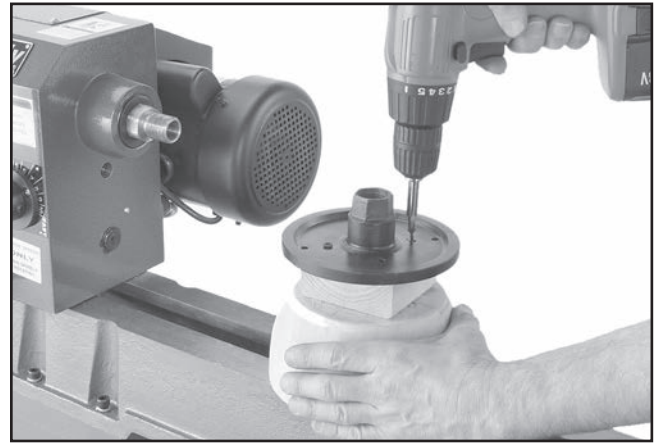

Figure 38. Attaching the faceplate to a backing block, which is glued to the workpiece.
2. Use the mark made in **Step 1** to center the faceplate onto the workpiece back, then attach it with wood screws that do not have tapered heads as shown in **Figure 38**.